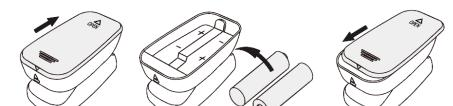

Figure 3. Batteries Installation
- Refer to Figure 3, and insert the two AAA size batteries properly in the right direction.